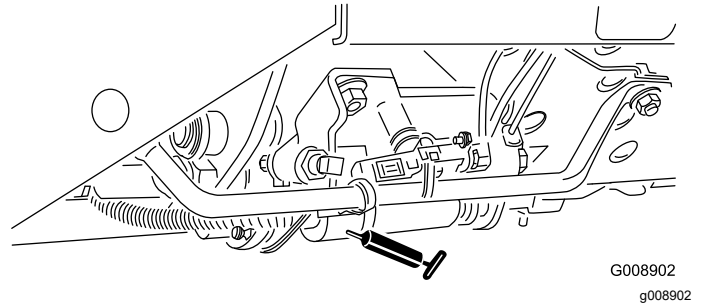

Figure 40
- Mow/transport slide (Figure 40)